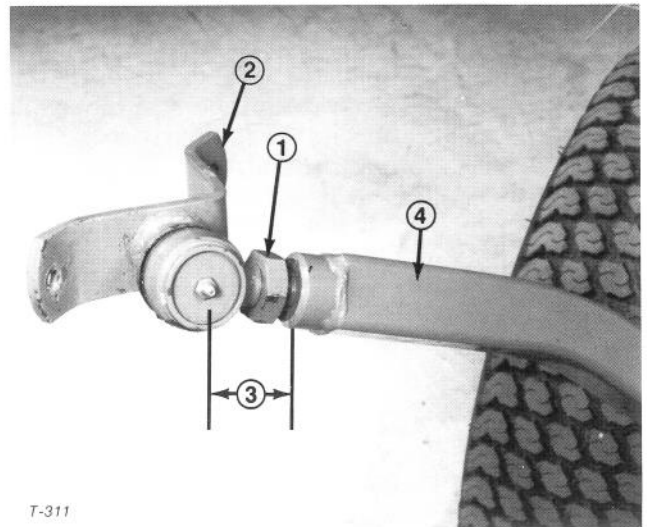

Figure 15
2. Screw ball joint into right hand push arm until center of ball joint is 2-3/8 inches (60 mm) away from front of push arm (Fig. 15). Do not tighten jam nut.